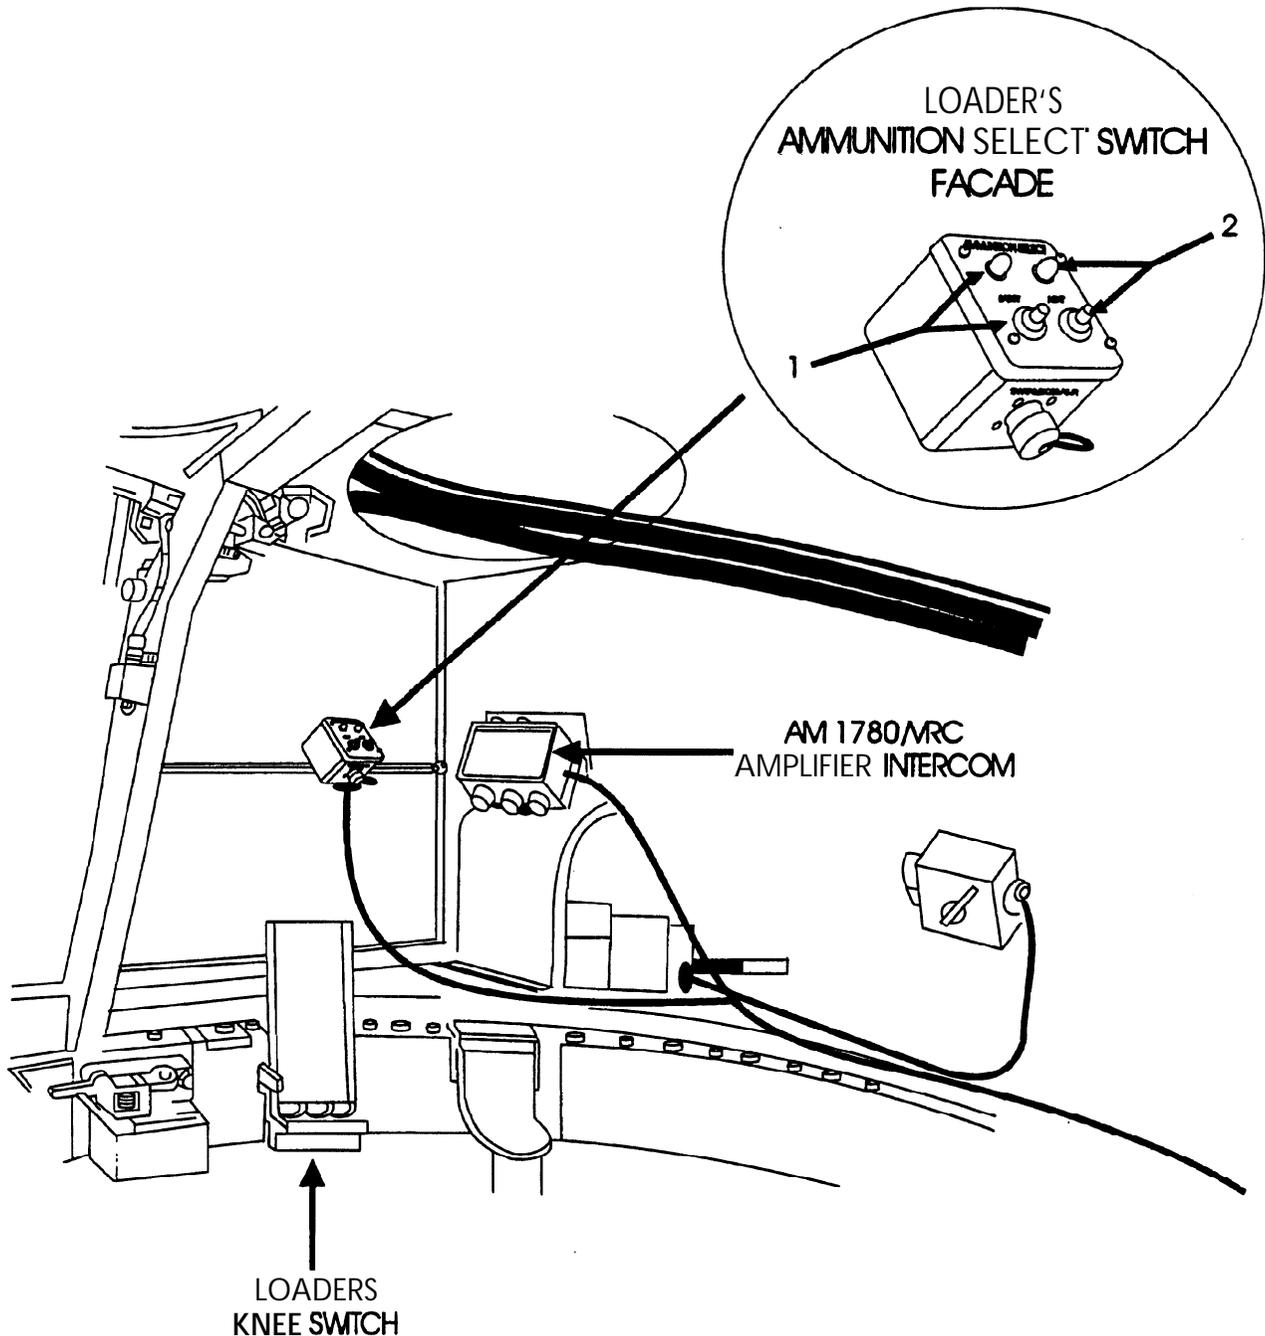

Figure 2-25. Loader's Station
2.3.4.3 Loader's Knee Switch. The simulator senses the Loader's Knee switch, shown in Figure 2-25. During training in the simulator trainer, the Loader's Knee switch will not open the ready ammunition bustle door, as it does in normal tank operation. The simulator is designed so that the Loader must press the knee switch in order to make an
2.3.4.4 AMMUNITION SELECT Switch Facade. The AMMUNITION SELECT Switch facade, shown in Figure 2-25, is appended in front of the ready ammunition bustle door. Since the ammunition ready doors do not function during simulation, the Loader cannot actually extract a round and load the main gun. The Loader simulates the loading and unloading processes using the Loader's Knee switch, Loader's AMMUNITION SELECT switch facade, and the Loader's Breech switch facade.